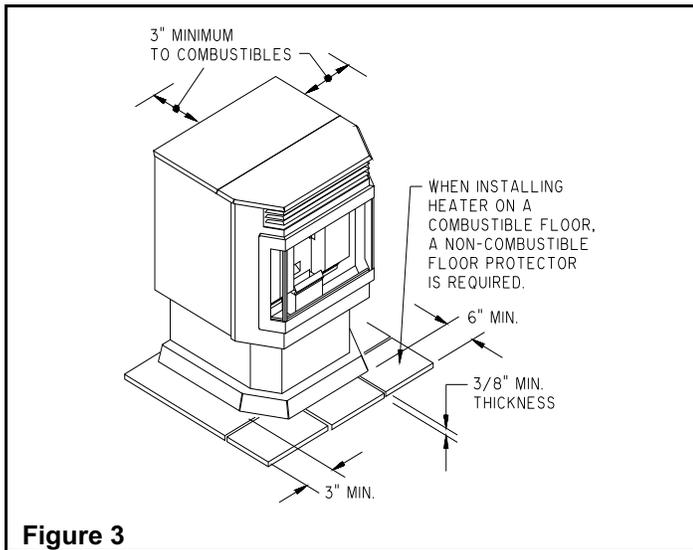

Figure 3
4. A non-combustible hearth pad must be used if installed on a carpet, wood floor or other combustible material (see Figure 3).
IMPORTANT: The Fire Pot must be seated flush and must sit even in the pot tray. Air leaking around the Fire Pot will create a poor burn (**Figure 3**). Light the pellets in Fire Pot using any approved pellet lighter.